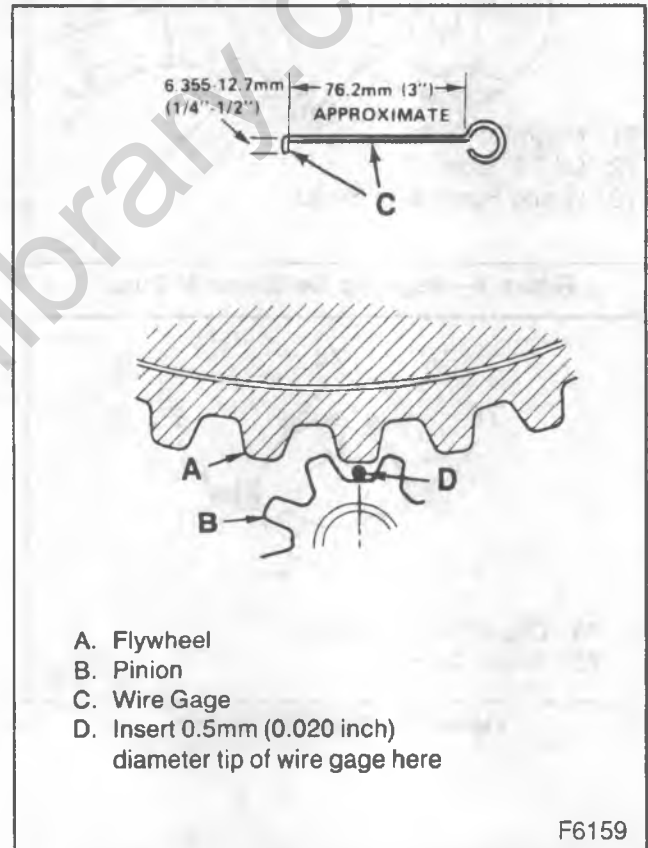

Figure 13—Flywheel to Pinion Clearance
bly so that the pinion teeth and flywheel teeth are meshed. If necessary, rotate the flywheel so that a ring gear tooth is directly in the center of two pinion teeth and on the centerline of the two gears (figure 13).
6. Measure the clearance between the top of the ring gear tooth and bottom of the pinion tooth using the width of the wire gage (figure 13). Normal clearance is 0.5 to 1.5 mm (0.02 to 0.06 inch).